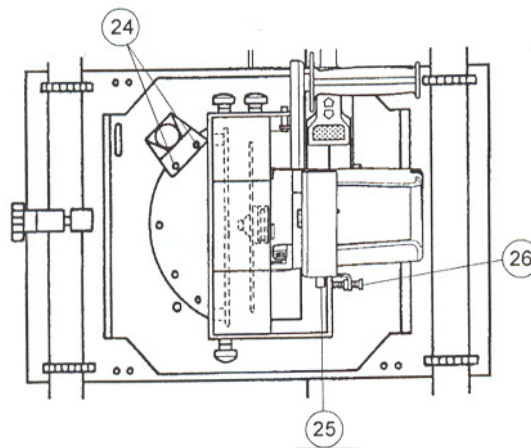

Figure 33: Adjusting the Blade (Perpendicularity)
- a. Loosen (but do not remove) the two hex-head nuts holding the indexing pin assembly (Figure 33, #24).
1. If the tool does not cut at 90° to the surface of the work piece, loosen the two motor mount nuts (Figure 33, #25). An adjusting screw (26) is located to the right of the lower nuts.